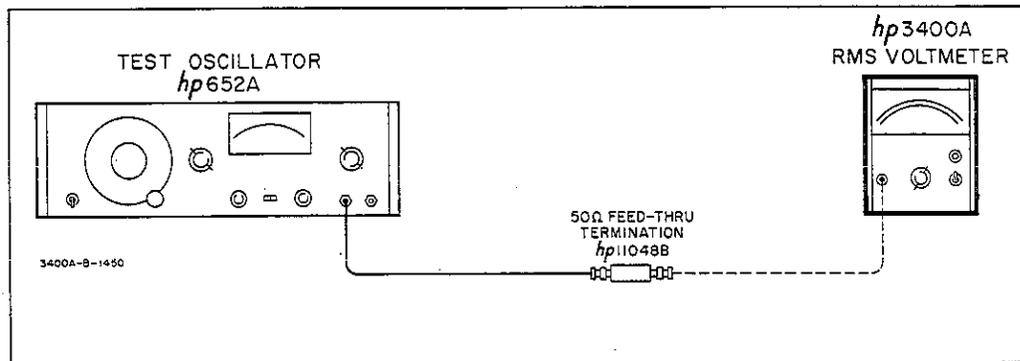

Figure 5-2. Frequency Response Test Setup
- a. Connect test setup illustrated in Figure 5-2.